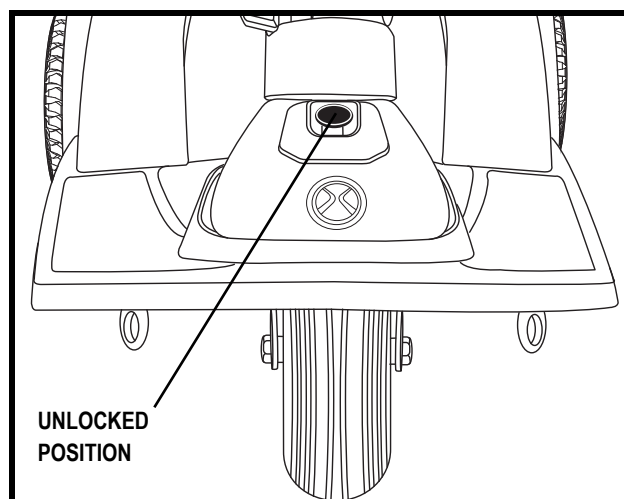

Figure 22. Tiller Lock Knob (Unlocked)
9. Unlock the front wheel by turning the tiller lock knob 90° counterclockwise. See figure 22.